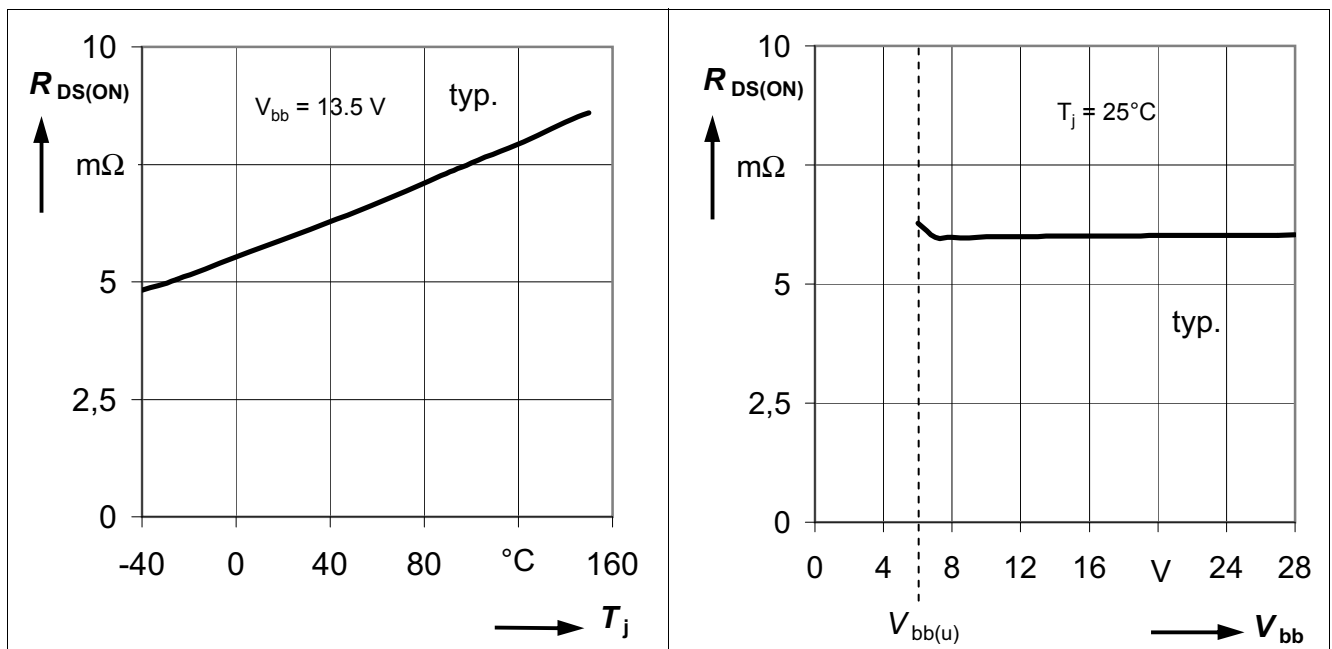

**Figure 5** Input Circuit
**Figure 5** shows the input circuit of the BTS50060-1EGA. The input resistor to ground ensures that the input signal is low in case of open input pin. The zener diode protects the input circuit against ESD pulses.